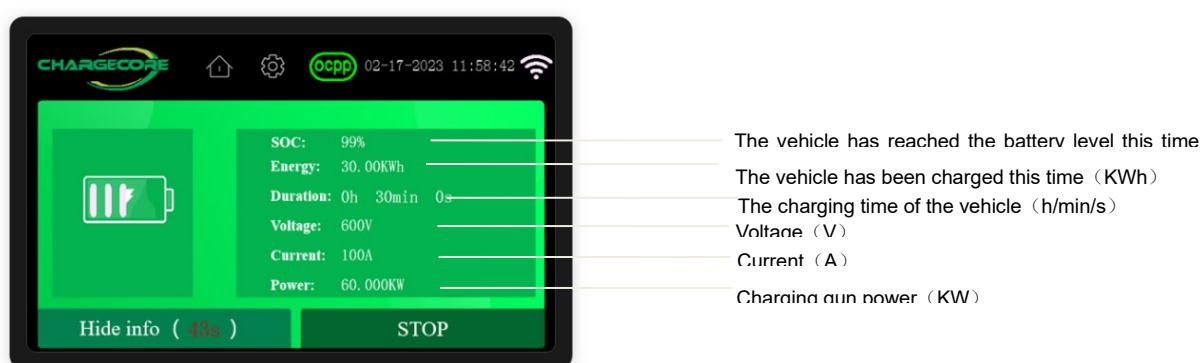

Figure 37 Charging interface
- View vehicle charging details in real time (as shown in Figure 37)